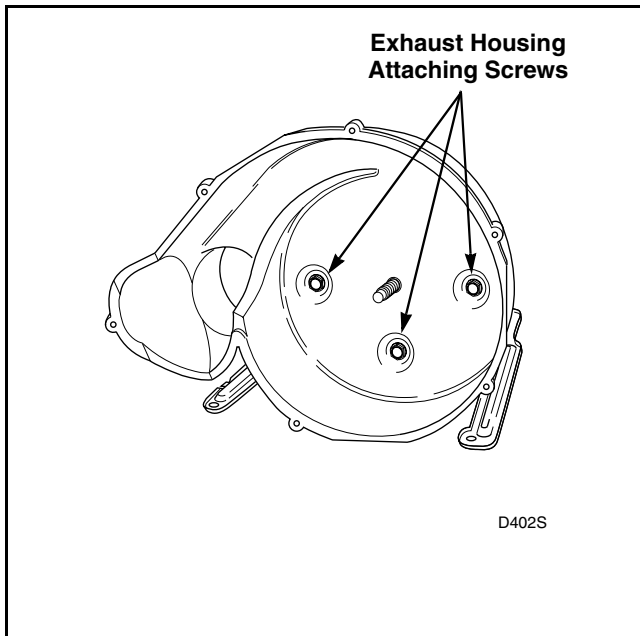

Figure 31
- Remove screws and washers holding exhaust housing to motor mounting bracket. Refer to *Figure 31*.